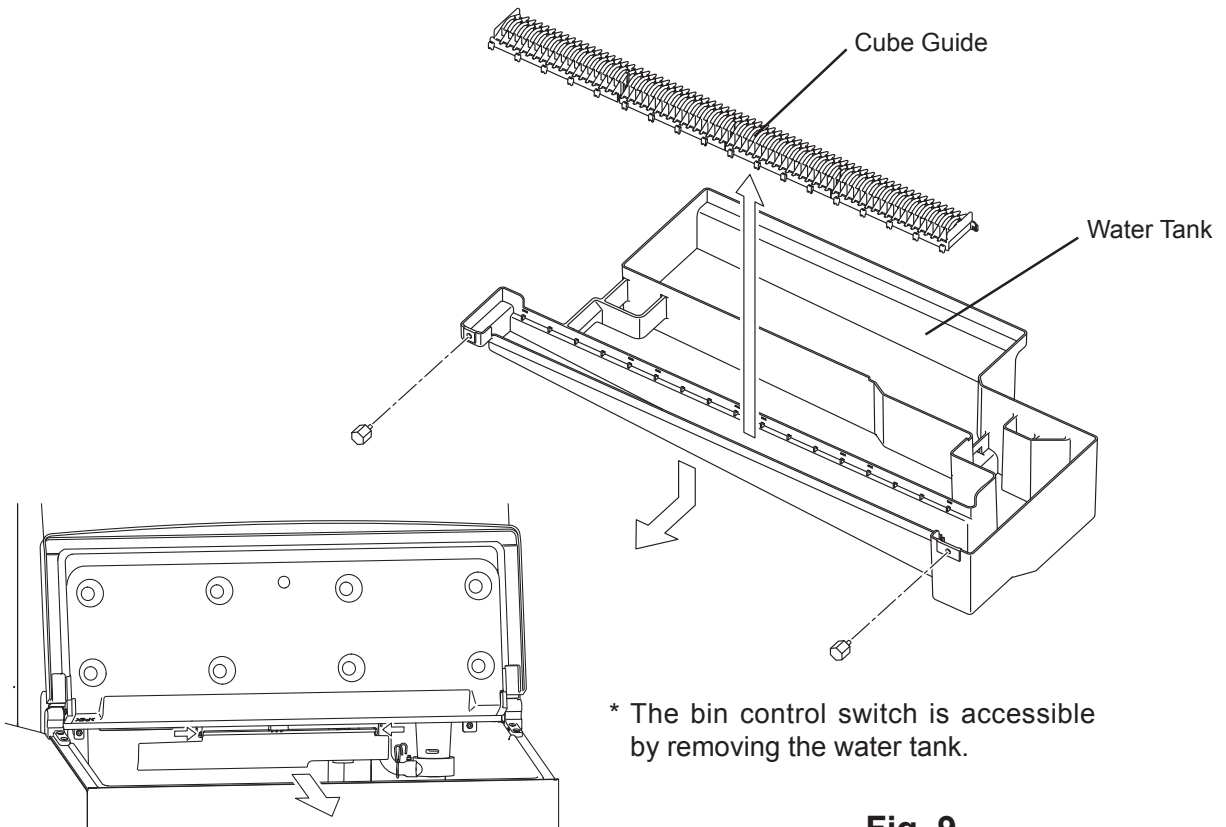

Fig. 9
- 15) Pull the cube guides (quantity varies depending on model) upward to remove them from the water tank. They are snapped in place. See Fig. 9.